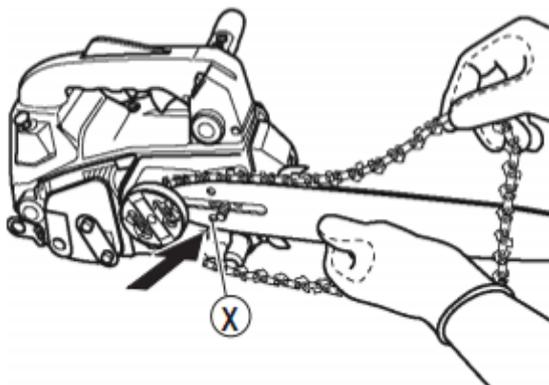

Fig.9
6) Place the saw chain over the sprocket behind the clutch, and fit it around the guide bar. Make sure the chain is placed above the chain catcher. (Fig.9)
9) Refit the sprocket cover, making sure the tension tooth is correctly inserted in the hole (fig.9 item x) provided on the guide bar.